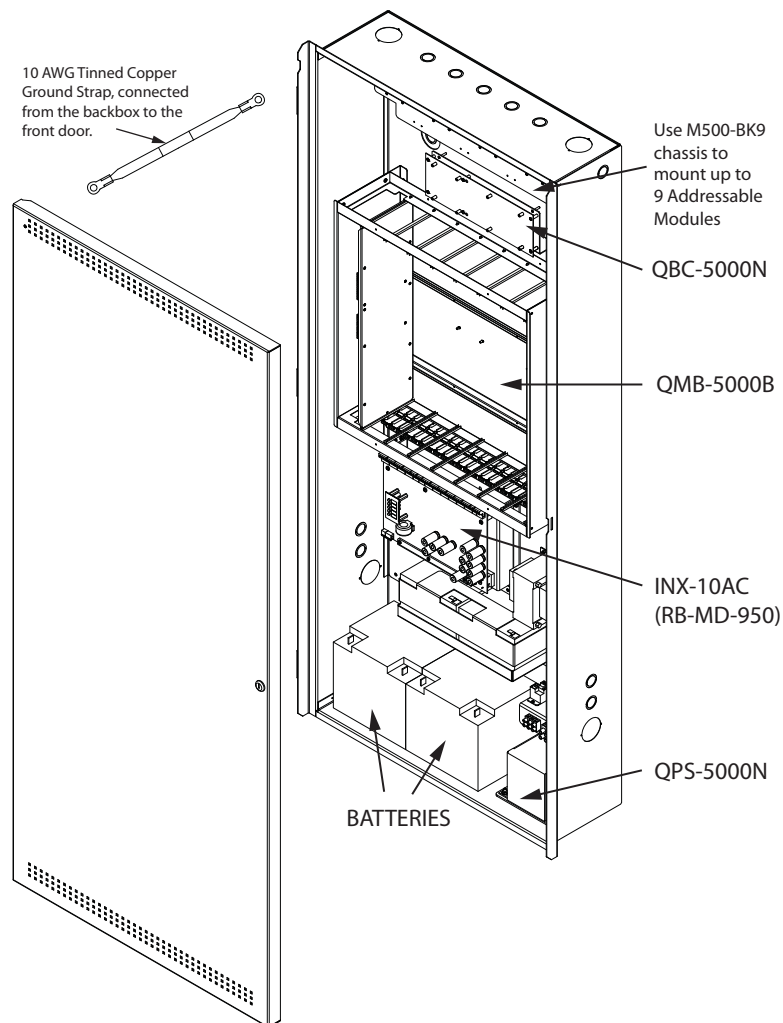

Figure 4 Audio System Installation in the MMX-MNSXP(R) with CH-993 Internal Chassis
3. Be sure to connect a solid earth ground from the building system ground to a cold water pipe to the chassis earth ground mounting lug and connect the ground strap from the door to the ground screw in the backbox, see Figure 4 below.